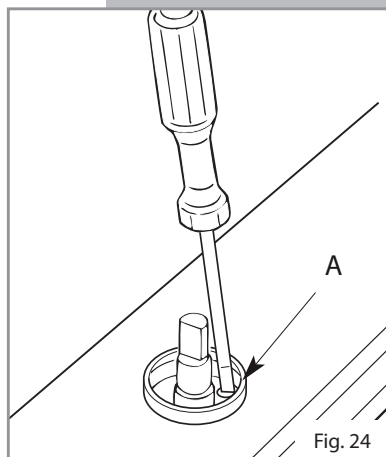

Fig. 24
- Turn the screw "A" to the correct setting with a screwdriver (fig. 24).